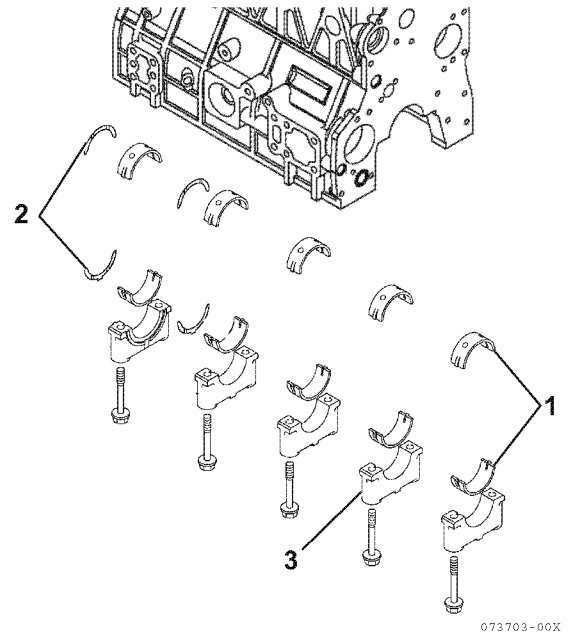

Figure 6-67
- Remove the main bearing caps (3, **Figure 6-67**). Be sure to note the markings on the main bearing caps, or mark them yourself, so they can be reinstalled in the same order as they were removed. Do not remove the bearing inserts at this time.
7. Remove the bearing inserts (1, **Figure 6-67**) and thrust bearings (2, **Figure 6-67**).